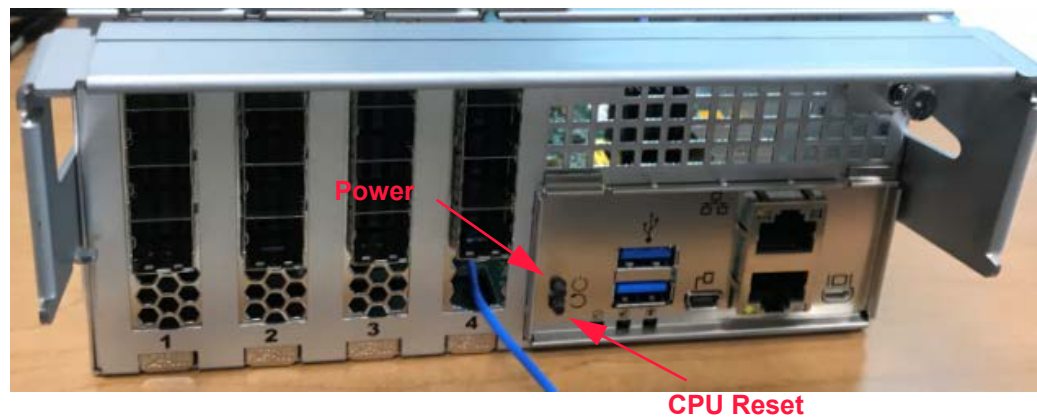

Figure 4.2 Server power and reset buttons
Power and CPU reset buttons are identified in Figure 4.2. These buttons are recessed to prevent accidental activation.
Both power and CPU reset buttons are located on the bottom center of each server's operator panel as shown in Figure 4.2 on page 49. Viking Enterprise Solutions recommends using these buttons when either rebooting or shutting down the server.
1. Gently insert the end of a paper clip (or other blunt, pointed object) into the recessed power button opening, just until the paper clip reaches the button. (Refer to Figure 4.2 on page 49 to identify the location of the power button.)
2. Gently insert the end of a paper clip (or other blunt, pointed object) into the recessed CPU reset button opening, just until the paper clip reaches the button. (Refer to Figure 4.2 on page 49 to identify the location of the CPU reset button.)
2. Gently insert the end of a paper clip or other blunt, pointed object into the recessed power button opening, just until the paper clip reaches the button. (Refer to Figure 4.2 on page 49 to identify the location of the power button.)